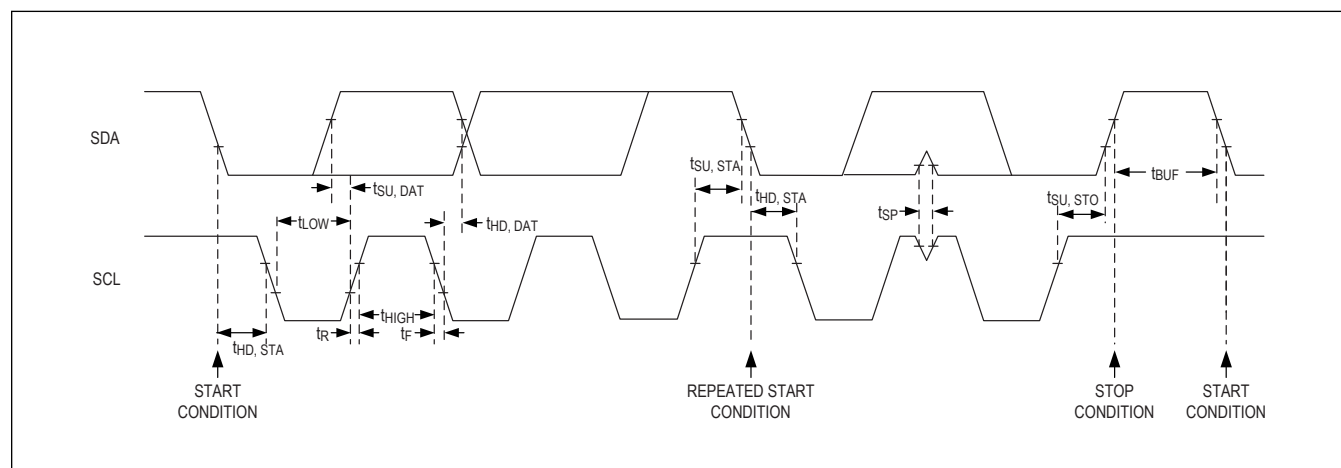

Figure 14. Detailed I2C Timing Diagram
The I2C interface on the MAX86177 is an I2C-compatible, SMBus-compatible, and 2-wire serial interface consisting of a serial data line (SDA) and a serial clock line (SCL). The SDA and SCL facilitate communication between the MAX86177 and the controller at clock rates up to 400kHz. Figure 14 shows the two-wire interface timing diagram. The controller generates SCL and initiates data transfer on the bus. The controller device writes data to the MAX86177 by transmitting the proper target address followed by the register address and then the data word. Each transmit sequence is framed by a START (S) or REPEATED START (Sr) condition and a STOP (P) condition. Each word transmitted to the MAX86177
The detailed timing diagram of various electrical characteristics is shown in Figure 14.